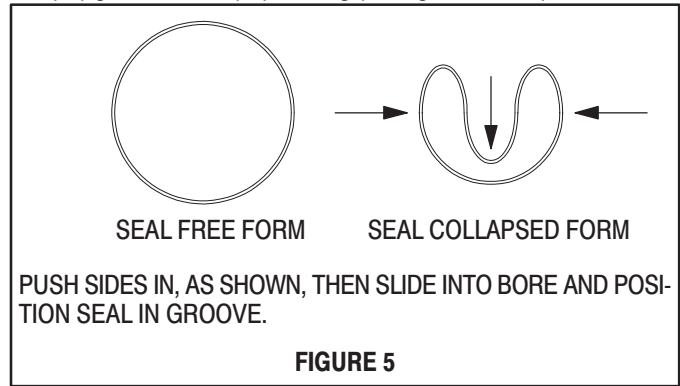
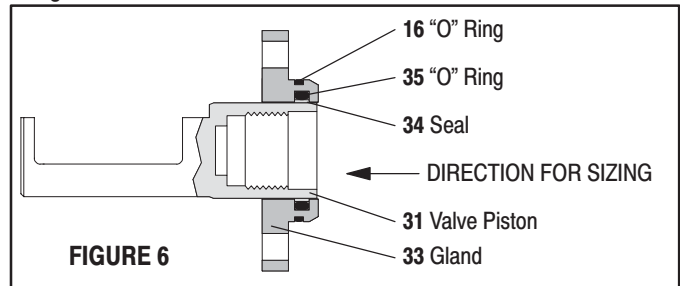

FIGURE 5
FIGURE 6
11. Install (16 and 41) "O" rings on (39) gland.
12. Grease the bore in (19) head assembly and insert (39) gland assembly into bore of (19) head assembly with a twisting motion.
13. Align holes in (39) gland and (19) head assembly and secure with four (22) screws.
14. Install (21) "O" ring on (19) head assembly.
15. Push (36) extension rod thru (41) "O" ring in the base of (19) head assembly.
16. Press (19) head assembly down, seating against (28) cylinder and (29) tube assembly.
17. Insert four (42) bolts down thru the holes in the flange of (19) head assembly and (30) base assembly.
18. Screw four (47) nuts on (42) bolts. Alternately and evenly tighten four (47) nuts.
19. Install (20) "U" cup in (38) adapter, with the lips down toward the thick flange of (38) adapter.
20. Install (35 and 16) "O" rings in the (33) gland.
21. Bend (34) seal in a heart shape (see figure 5 below) and install in (33) gland, next to (35) "O" ring (see figure 6 below).
22. Carefully push (31) valve piston into (33) gland to size (34) seal (see figure 6 below). After sizing, remove (31) valve piston from (33) gland.